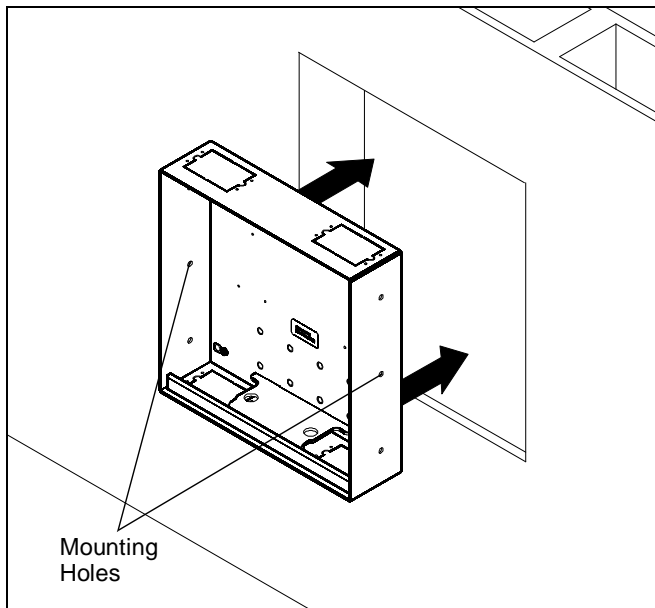

Figure 3
4. Center MAC-501 in opening and insert into opening. Align front of box with front face of wall. (See Figure 3)